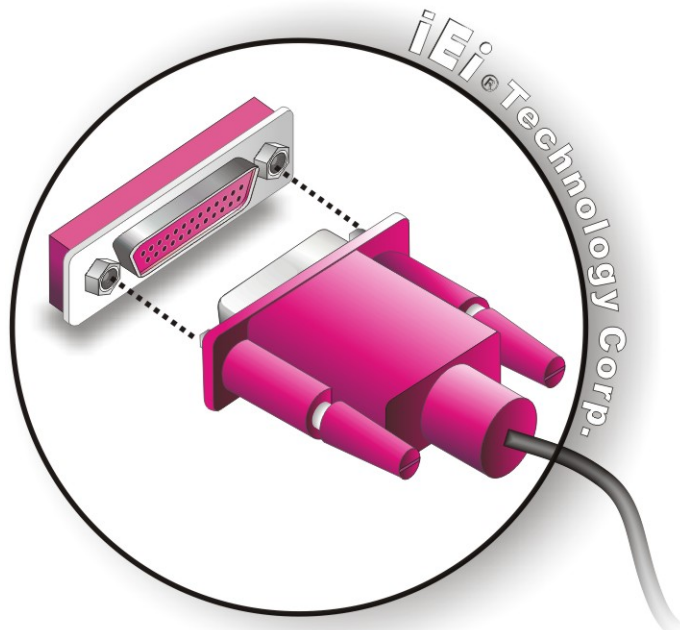

Figure 4-19: Parallel Device Connector
Step 2: Insert the DB-25 connector. Insert the DB-25 connector of a parallel device into the DB-25 connector on the external peripheral interface. See **Figure 4-19**.